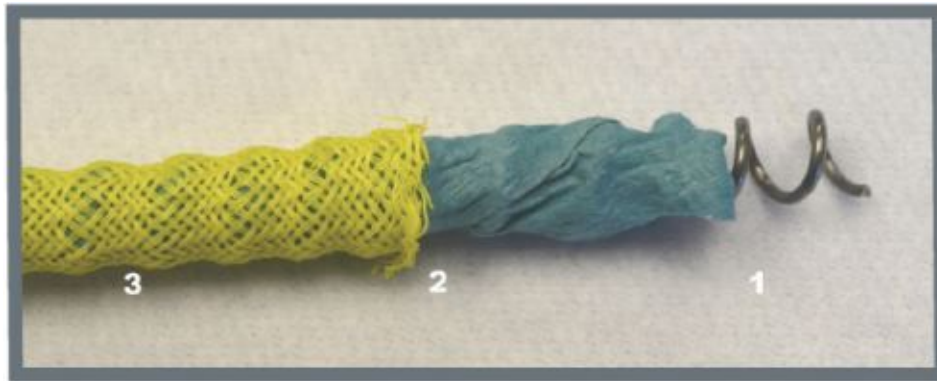

Figure 2. INJECTO[®] Tube Construction
A high strength spiral wire coil (1) prevents collapse during concrete placement, while the non-woven filter membrane (2) prevents the tube from being clogged with concrete particles. A bright yellow reinforced mesh sleeve (3) protects the tube and allows for easy inspection before the pour. Wherever old to new concrete surfaces join, the INJECTO[®] system can be easily installed (see Figure 2).